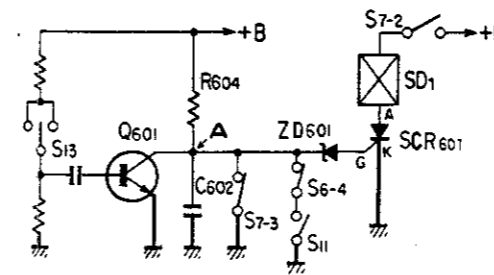

Fig. 24 Sensing circuit
11.2 SENSING CIRCUIT (Fig. 24)